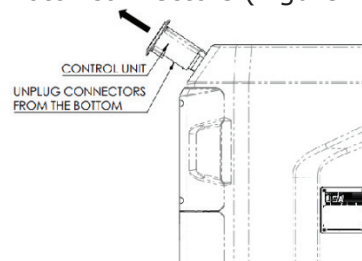

Figure 1: Apex 500-700 model.
1. Unscrew the 4X Screws securing the Control unit to the outside of the Portacool housing and carefully slide the control unit out just far enough to access the connectors on the bottom (Figure 1). Take care not to put strain on the connectors as the unit is pulled out, push the wires out of the way if necessary to slide out of the housing opening.